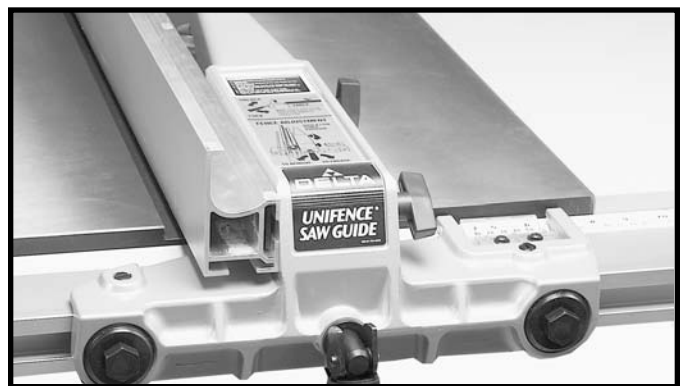

Fig. 41
2. For most normal ripping operations of standard size lumber, the fence is used in the vertical position, as shown in Fig. 41.